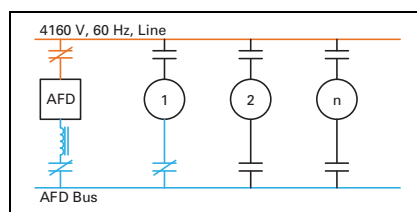

Figure 10.2-5. AFD Starts Motor #1
- AFD closes input contactor (**Figure 10.2-5**)